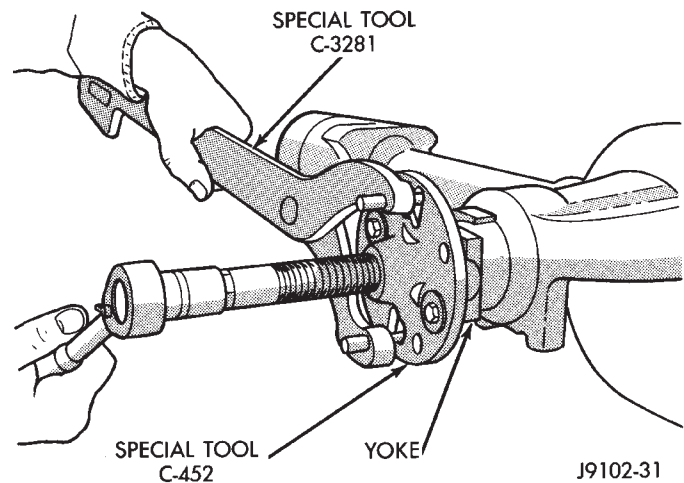

Fig. 28 Pinion Yoke Removal
(1) Remove differential assembly from axle housing.
(2) Mark pinion yoke and propeller shaft for installation alignment.
(3) Disconnect propeller shaft from pinion yoke. Using suitable wire, tie propeller shaft to underbody.
(4) Using Holder 6958 to hold yoke, remove the pinion nut and washer.
(5) Using Remover C-452 and Holder C-3281, remove the pinion yoke from pinion shaft (Fig. 28).